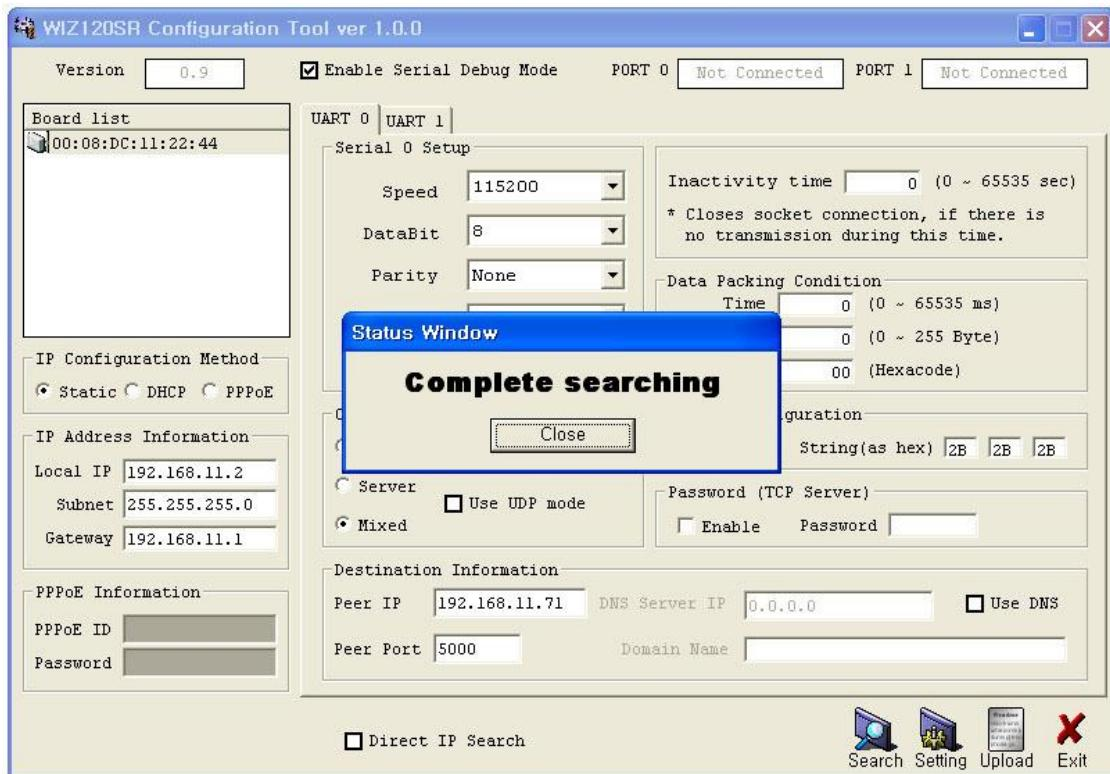

Figure 5. Board Search Window
- ① Run ‘WIZ120SR Configuration Tool’ program, and click the “Search” button.
- ② If the module is properly connected to the network, the “Searching Complete” message and the MAC address will be displayed on the “Board List” as shown in Figure.5.
- ③ Select a module shown in the “Board list”, and click the “Upload” button.
- ☞ **Before uploading the firmware through Ethernet, you should set the network information of WIZ120SR first, by Configuration Tool program as shown above in Figure 5. By using Ping test, you can check whether your network is configured correctly or not.**
- ④ When the window as shown in Figure 5 is displayed, select file to upload and click the “Open” button.